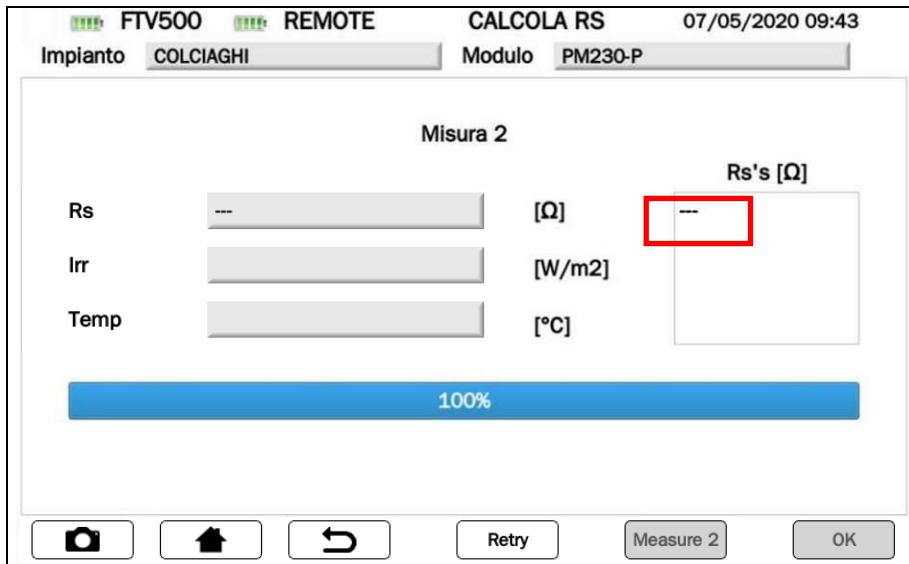

Figure 14.7.3-17 RS measurement “---“
- If the Rs measurement (see Figure 14.7.3-16) is not displayed, check: